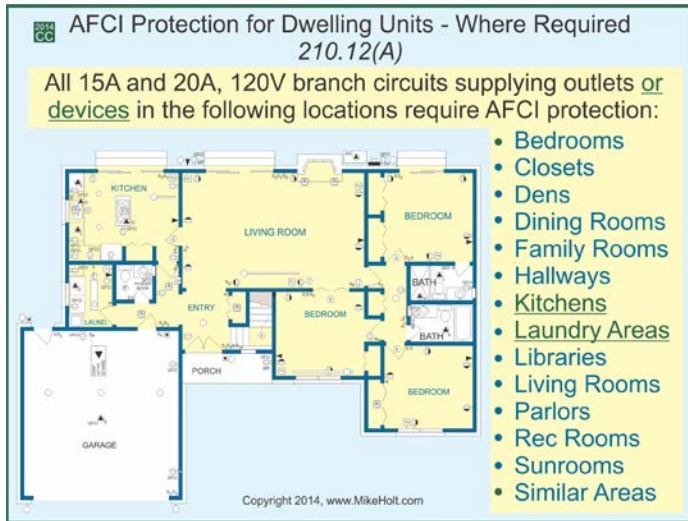

Figure 210-53
(A) Where Required. All 15A or 20A, 120V branch circuits in dwelling units supplying outlets or devices in kitchens, family rooms, dining rooms, living rooms, parlors, libraries, dens, bedrooms, sunrooms, recreation rooms, closets, hallways, laundry areas, or similar rooms or areas must be protected by one of the following: Figure 210-53
- (1) A listed combination type AFCI, installed to provide protection of the entire branch circuit.
- (2) A listed branch/feeder type AFCI at the origin of the branch circuit, plus a listed outlet branch-circuit AFCI installed at the first outlet box of the branch circuit. The outlet box must be marked to indicate that it's the first outlet box of the circuit.